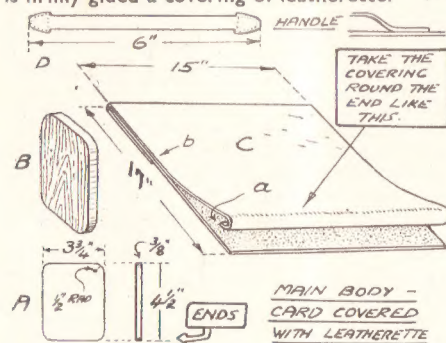

Fig. 2—Detail of parts needed
To make, first required are the two ends as (A), Fig. 2. Cut from any pieces of nice wood, $\frac{3}{8}$ in. thick, they are $4\frac{1}{2}$ ins. by $3\frac{1}{2}$ ins. and have the corners rounded to a curve of $\frac{1}{4}$ in. radius. The marking out of the corners is done by feeding a halfpenny up to them and drawing round it—a halfpenny being just 1in. in diameter. The detail at (B) shows one of the finished ends.
pletely drying out—which will not take long—cut the simple handle (D) Fig. 2. This is a strip of leather, 6ins. long and $\frac{1}{2}$ in. wide in the middle, but widening out to two rough arrow-head or heart shapes at the ends so it can be easily stitched on. A length of old strap slightly wider than $\frac{1}{2}$ in. and trimmed down in the centre will do well for this.